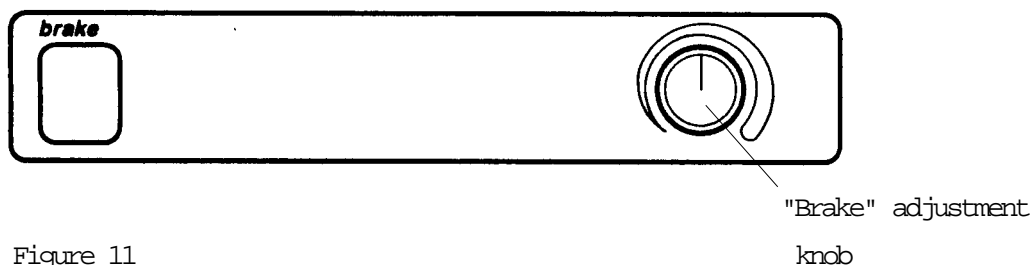

Figure 11
To reduce the risk of resuspending samples during deceleration, it is possible to preselect the brake intensity with the "brake" adjustment knob (1), (10 intensity levels), see figure 11.